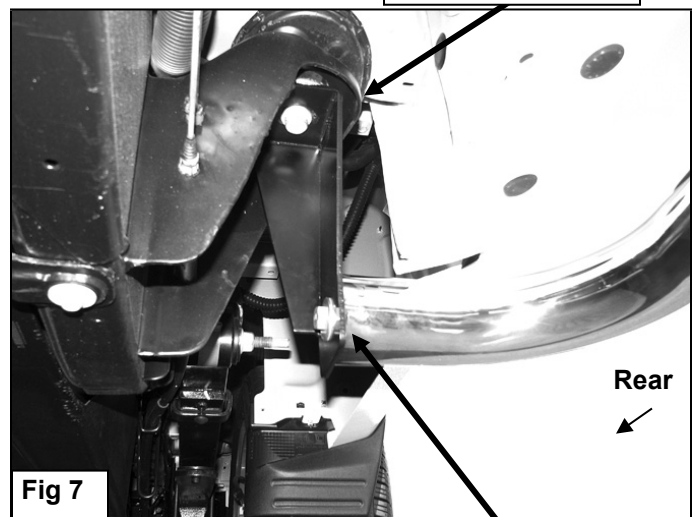

Fig 7
4. Move toward the rear of the vehicle. Select the driver side Rear Mounting Bracket, **(Figure 4)**. Bolt the rear Mounting Bracket in place as previously described in **Step 2, (Figure 7)**.